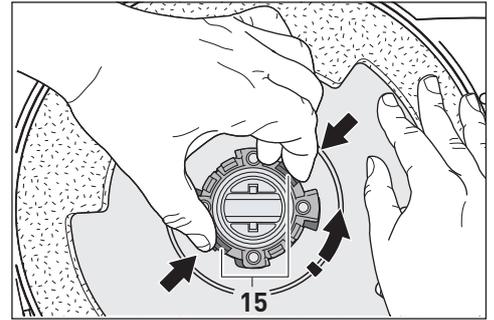

Figure 10
Changing the Floor Pad - Figures 10, 11 & 12
To change the floor pad, press the retainer tabs (15) inward using your thumb and forefinger. Rotate the pad (13) counter clockwise (figure 10). Lift the floor pad out.